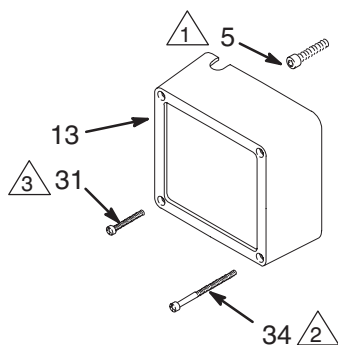
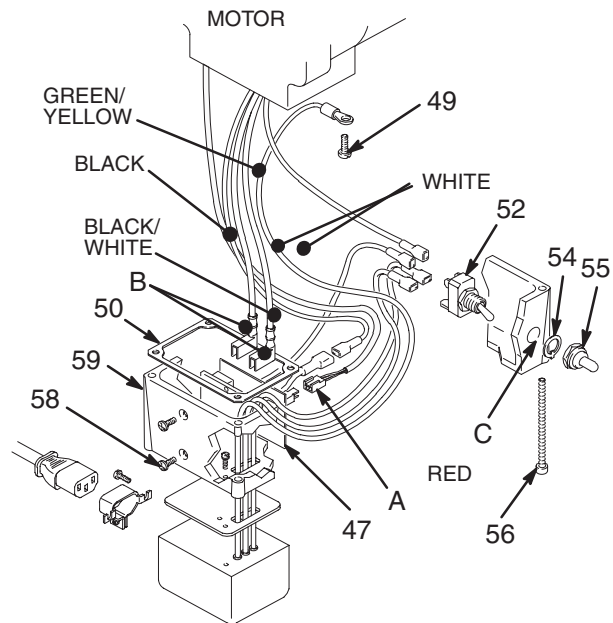

Fig. 22
Fig. 23
NOTE: See Fig. 22 except where noted.
3. Remove the screws (56) and lower the junction box (59). Disconnect the motor wires and the pressure control wire (A) from the motor start board. Refer to Fig. 23 on page 24.
4. Remove the front cover (13).
5. Turn the displacement pump rod (107) so the pin hole aligns with the bottom drive housing screw (5). See Fig. 21. Remove the three drive housing screws (5). Also see Fig. 22.
6. Remove the two motor screws (5).
7. Tap the lower rear of the drive housing (11) with a plastic mallet to loosen the motor. Pull the drive housing straight off the motor while guiding the harness (A) from the motor. Do not allow the gear (16) to fall. Read the CAUTION on page 25.
8. Remove the two screws (46) and lift the motor off the base (66).
① Torque to 9 N.m (80 in-lb)
② Quantity of three
③ Quantity of one
9. Align the new motor with the base and reinstall the screws (46).
11. Connect the wires in the junction box. Refer to Fig. 23 on page 24. Install the junction box.
12. Connect the piston rod (107) to the drive housing; see page 22, **Installing the Pump**, Step 2 and the **WARNING** following it.
NOTE: See Fig. 23 for this procedure.